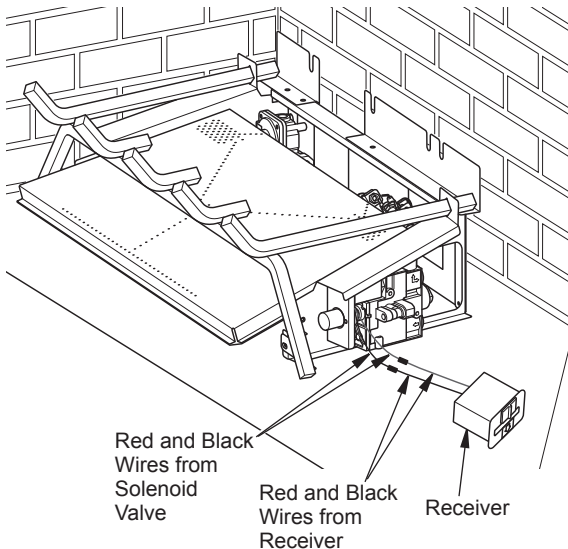

Figure 18 - Attaching Remote Receiver to Solenoid Valve
1. Remove battery cover on receiver as shown on the box. Install four AA size batteries into receiver, (see Figure 18).
2. Locate red and black wires from solenoid valve on right side of heater. Connect wires to receiver, red to red, black to black, (see Figure 18).
3. Place receiver to the side of the log set, (see Figure 18).